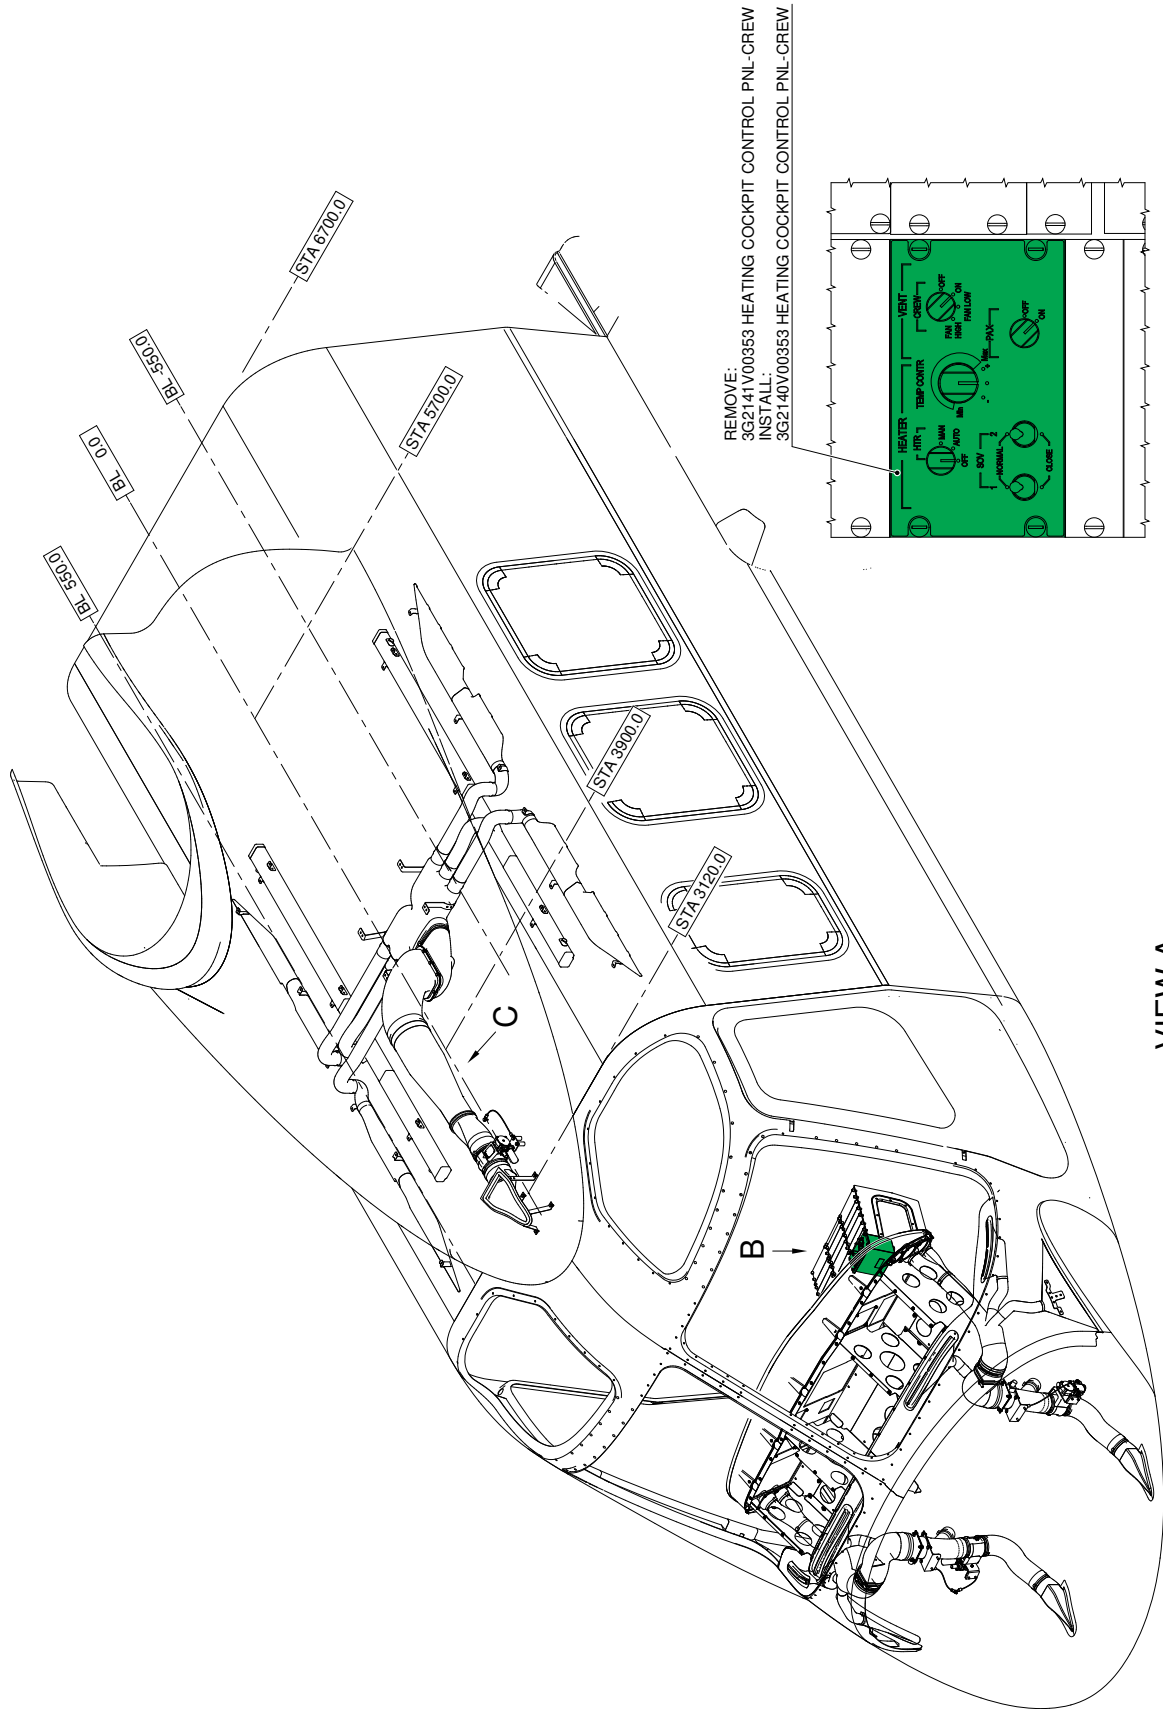

Figure 2
2. In accordance with AMP DM 39-A-06-41-00-00A-010A-A and with reference to Figure 2, remove all external panels, internal panels and internal liners as required to gain access to the area affected by the installation.
- 3.1 With reference to Figure 2 View B, remove heating cockpit control Panel P/N 3G2141V00353 from the interseat console.
- 3.2 With reference to Figure 2 View B, install heating cockpit control Panel P/N 3G2140V00351 on the interseat console.